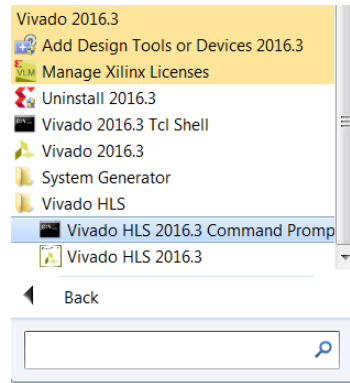

Figure 5-1: Vivado HLS Command Prompt
- a. On Windows use **Start > All Programs > Xilinx Design Tools > Vivado 2017.4 > Vivado HLS > Vivado HLS 2017.4 Command Prompt** (Figure 5-1).